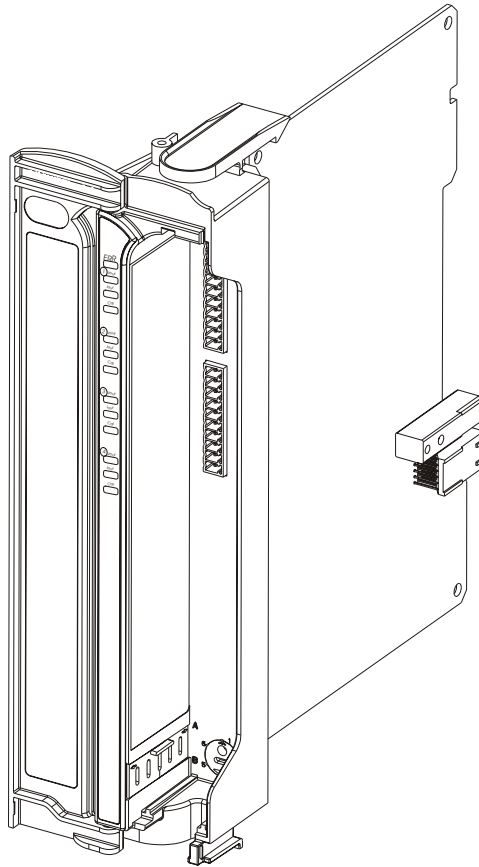

Figure 10-1 ACE3600 AO Module – General View
The Analog Output (AO) modules have four optically-isolated analog output channels for controlling user devices (see Figure 10-1). Each channel has two possible outputs: 0-20 mA Interface industry standard current output and 0-10 V Interface industry standard voltage output. Only one of the outputs can be enabled in a particular channel - either current or voltage.
Figure 10-1 provides a general view of the ACE3600 AO module.